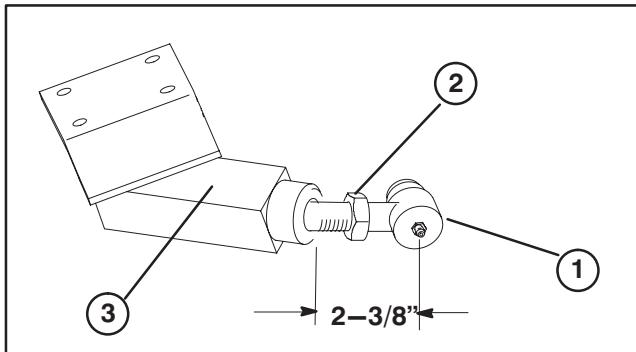

Figure 5
CONNECT RIGHT HAND PUSH ARM TO CUTTING UNIT (Fig. 5– 6)
9. Tighten large jam nut securing ball joint to push arm adapter (Fig. 5). When tightening jam nut, hold ball joint straight to permit proper oscillation during raising and lowering of cutting unit. Carefully remove wood block holding push arm down.